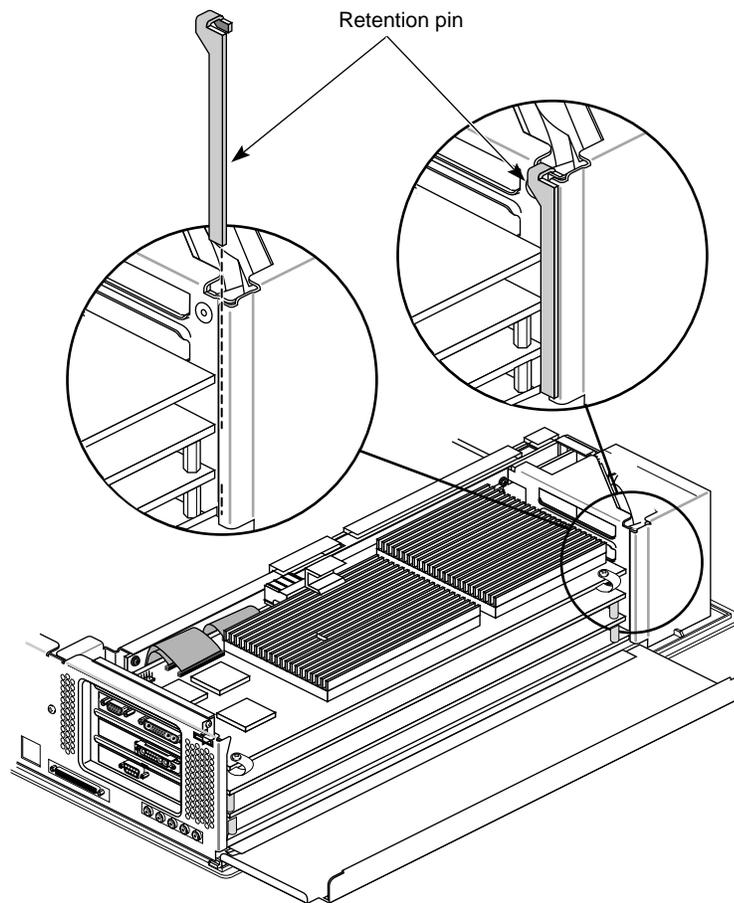

Figure 5-15 Replacing the Retention Pin
4. Replace the retention pin on the side of the chassis. See Figure 5-15.